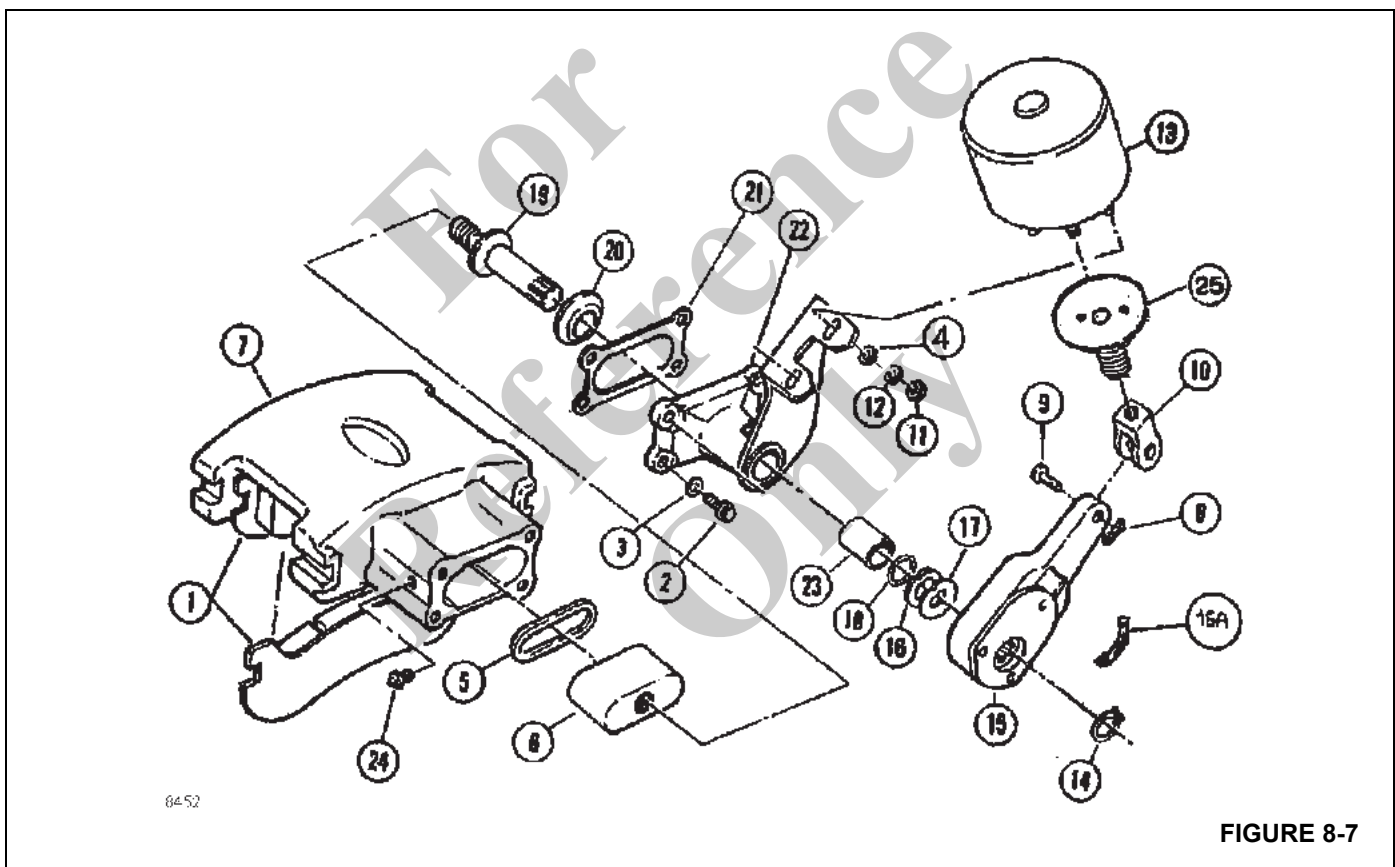

FIGURE 8-7
The Series of brake head assemblies covered by this manual consists of a caliper (7) (Figure 8-7), a manual or automatic slack adjuster (15), and a hydraulic spring actuator (13).